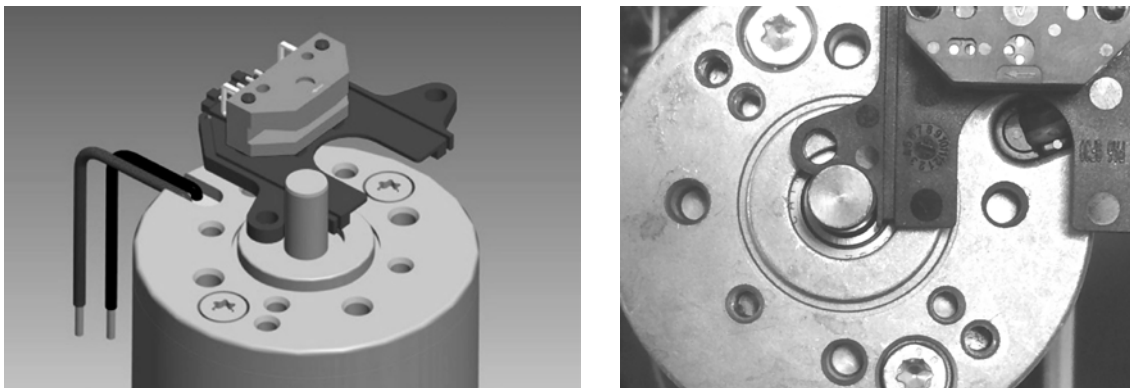

Figure 5
12. One of the “leg” of the Base Plate has been designed to be used as a thickness gauge. In preparation for the next step, place the “leg” against the motor shaft as shown in Figure 5.